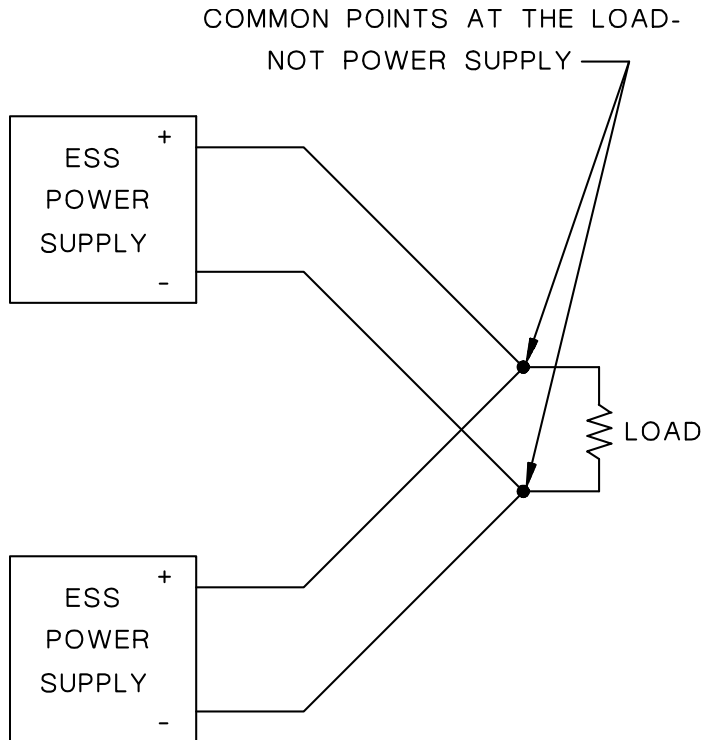
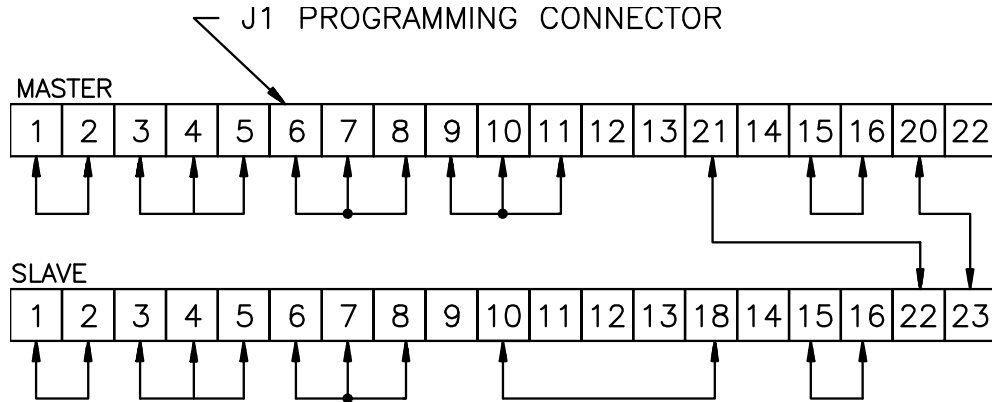

Figure 3.12: Parallel Operation
Figure 3.13: Parallel Operation in Master/Slave Configuration
- A) Maintain the same connections used for parallel operation (Figure 3.12). Adjust the strapping of each (master and slave supply) J1 programming connector as shown in Figure 3.13. The power supply designated master controls the voltage and current output of the slave supply.
NOTE: RSTL can only be used in Master Supply, and the P1/J1 should be configured according to Fig. 3.13 and 3.14. Please contact the factory to configure a unit with RSTL for Slave Operation.